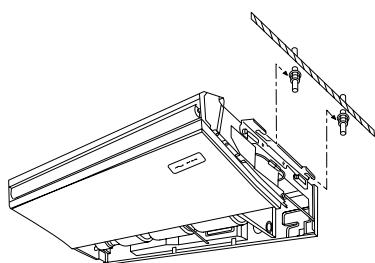

Fig. 3-6
⑦ Suspending bracket
⑧ Unit
1) Directly suspending the unit (Fig. 3-6)